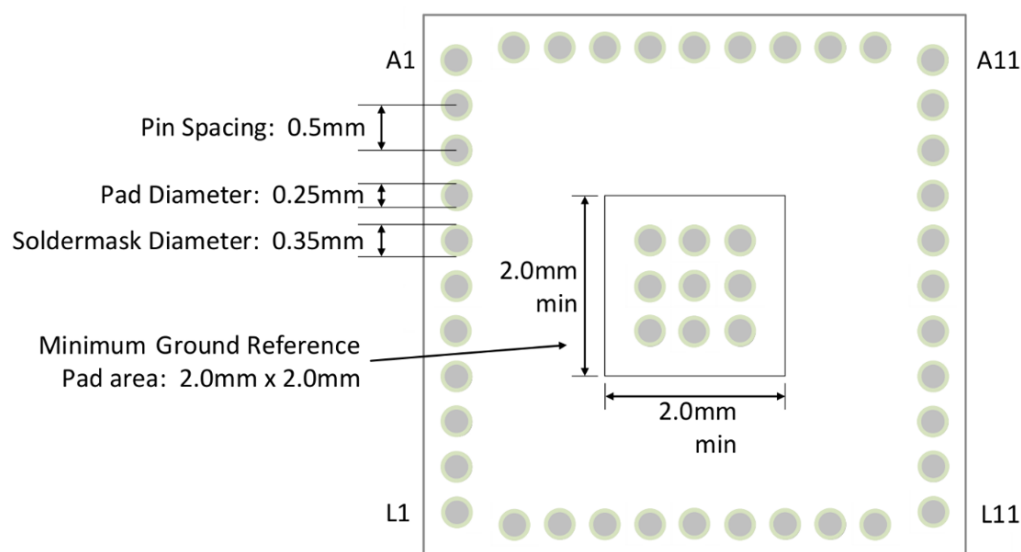

Figure 6. Recommended PCB Pad Pattern
- PCB pad pattern diagram is shown in Figure 6.